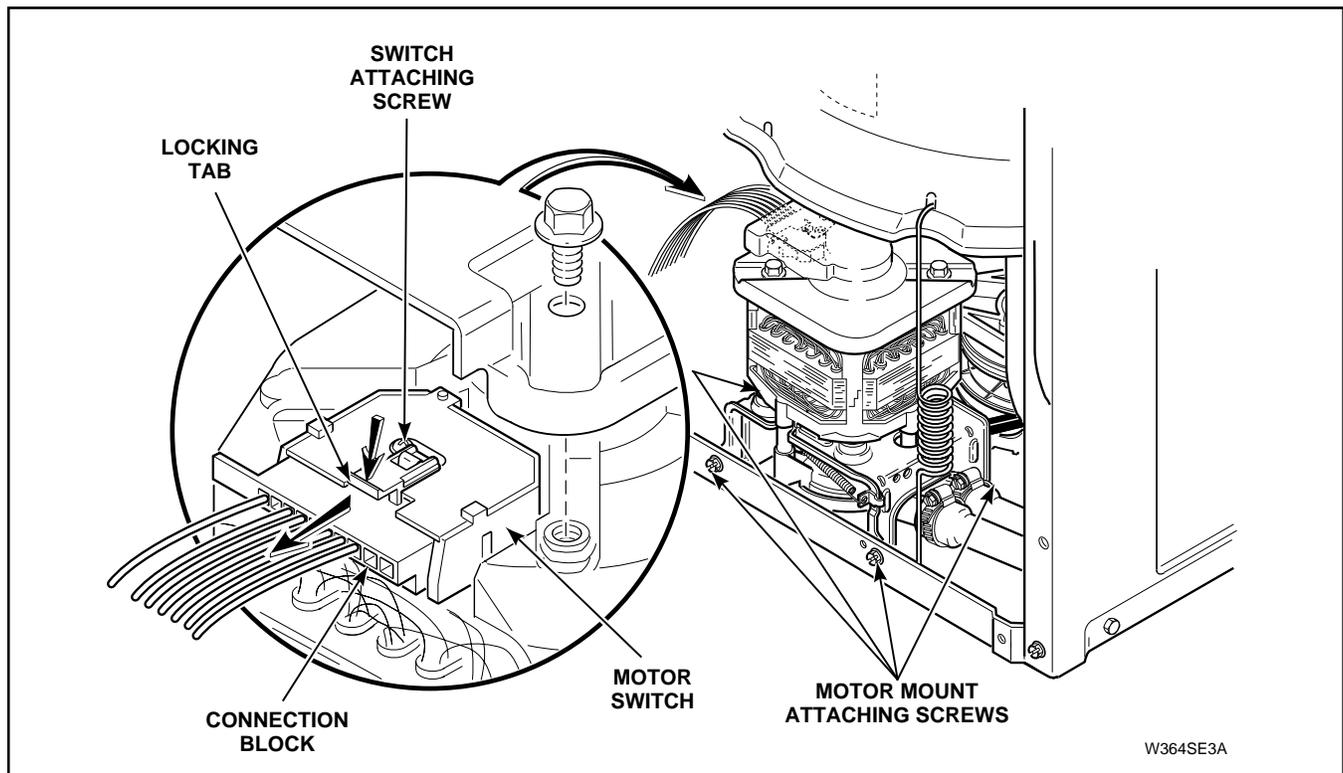

Figure 18
- Disconnect wire harness from motor switch by pressing down on locking tab on top of connection block and at the same time pull connection block away from motor switch, *Figure 18*.
- Remove four screws holding motor and mounting bracket to washer base, *Figure 18*, then lift complete assembly out of washer.
- Remove four screws holding motor assembly to washer base, *Figure 18*, then lift complete assembly out of washer.
- c. Loosen hose clamps and remove hoses from pump assembly, *Figure 18*.
- f. Disconnect wire harness from motor switch by pressing down on locking tab on top of connection block and at the same time pull connection block away from motor switch, *Figure 18*.
- g. Remove four screws holding motor assembly to washer base, *Figure 18*, then lift complete assembly out of washer.
- d. Disconnect wire harness from motor switch by pressing down on locking tab on top of connection block and at the same time pull connection block away from motor switch, *Figure 18*.
- e. Remove screw holding motor switch to motor, *Figure 18*, and remove switch.